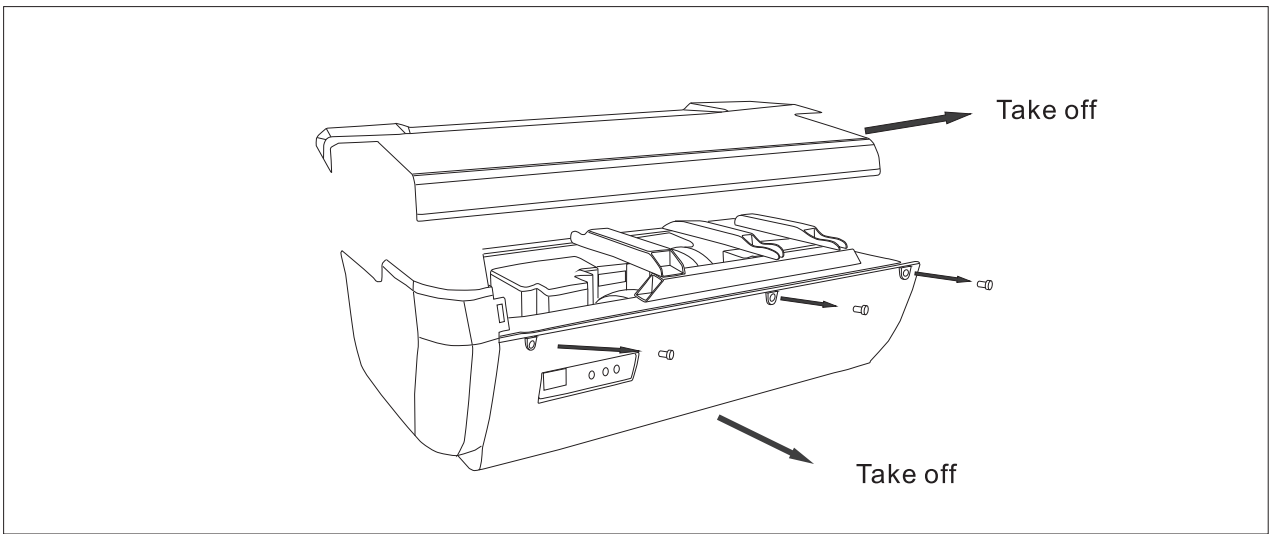

Figure 1
- (3) Place the equipment on solid and flat ground.
- (4) Twist down the five screws connecting the top and bottom parts of the motor cover with cross screwdriver and then remove the top part. (See Figure 1)
(11) Finally fix the upper cover into the lower cover (See Figure 1). If the treadmill is running well, then tightly screw the eight M10*25 hexagonal fillister head screws that are not so tight in Step (5).